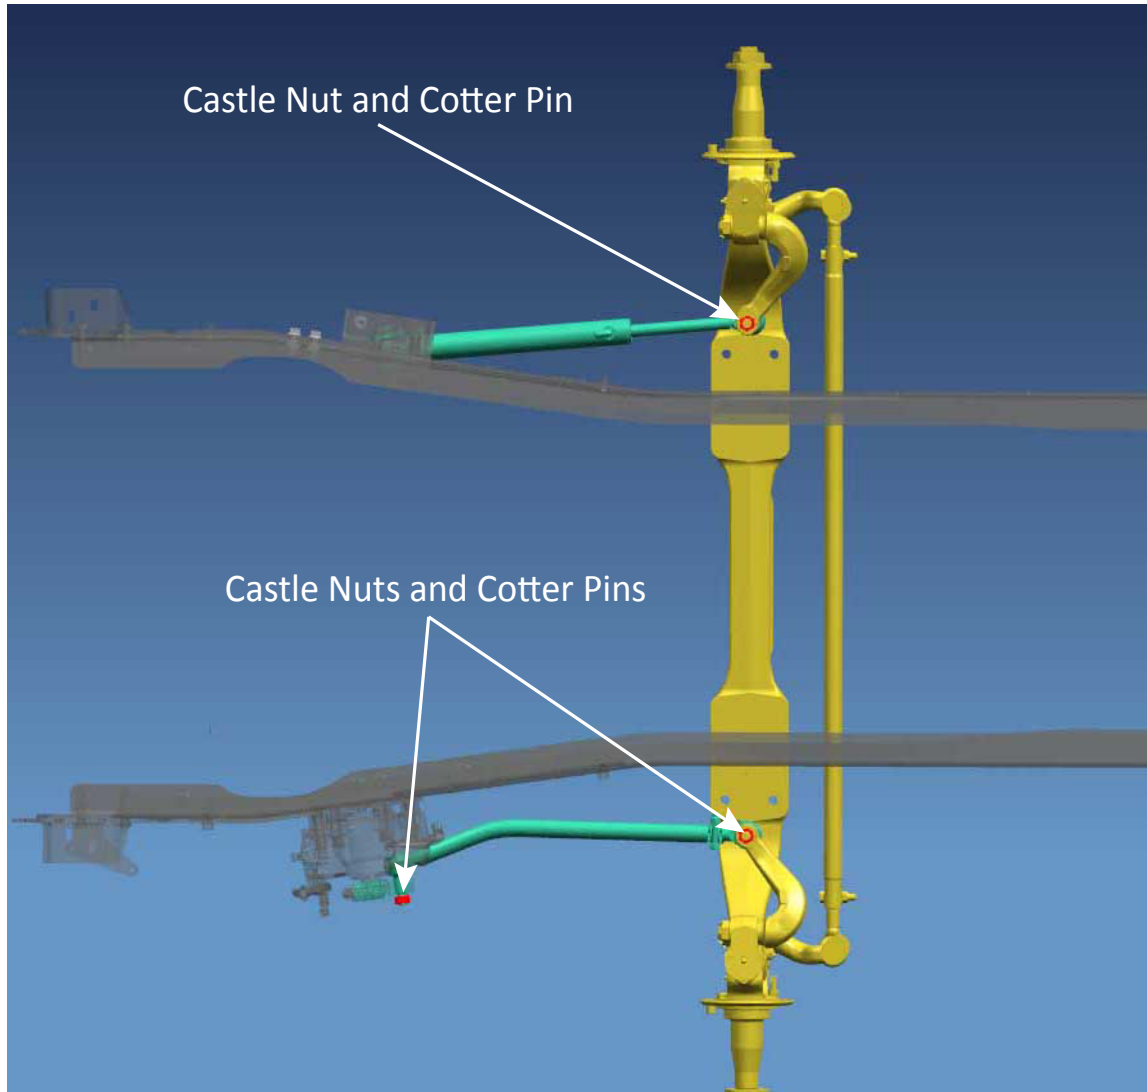
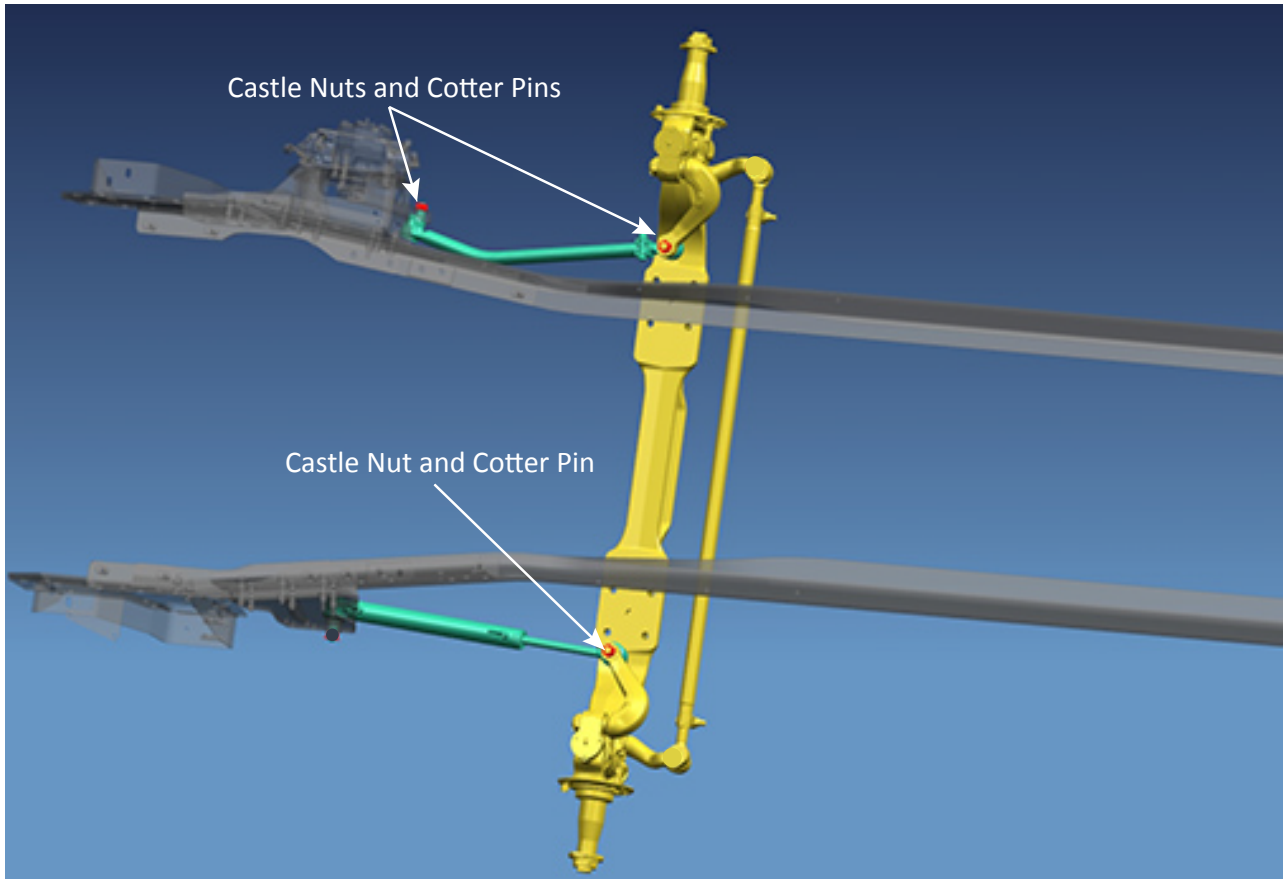

Figure 1
Figure 2
2. Locate the castle nuts on the steering components (auxiliary power steering ram, pitman arms, drag links, optional idler arms). Remove the cotter pins and discard (See Figure 1 for LH Drive or Figure 2 for RH Drive).